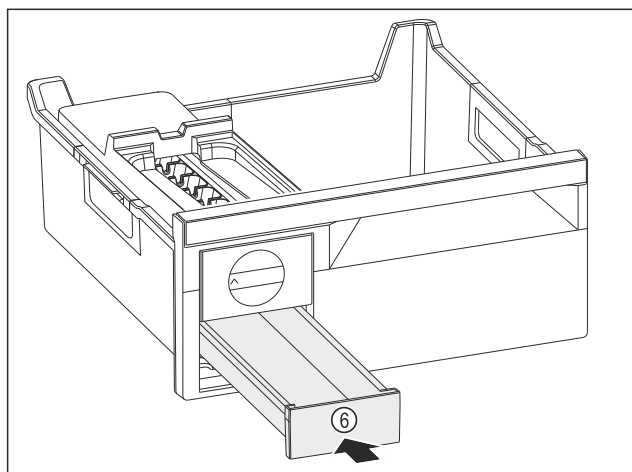

Fig. 149
- Insert the ice cube drawer Fig. 149 (6).